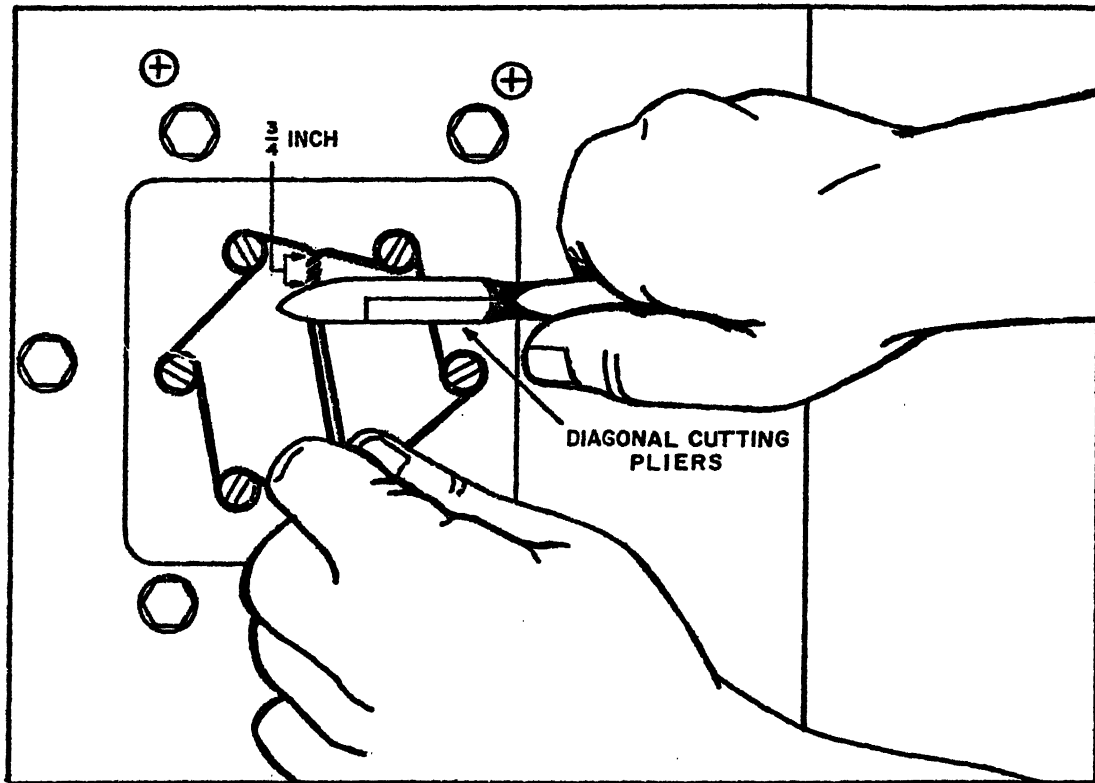

FIGURE 19
- b. Cut the wire at that point with diagonal cutting pliers. See figure 19.